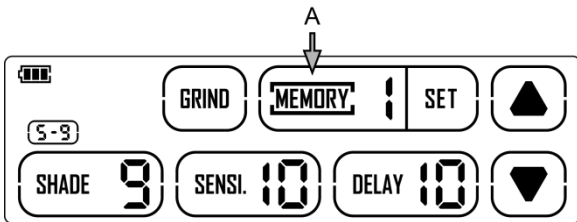

fig. 8a
Step 1: Touch “MEMORY” on display screen, set to “1” via touching “▲” and “▼” (see fig. 8a-A).